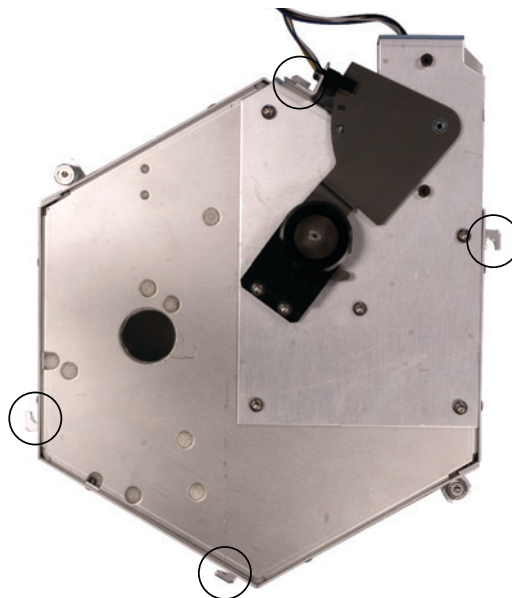

Figure 18 Remove T-20 screws from the oven top assembly
- b Remove four T-20 Torx screws from the oven top assembly (Figure 18).